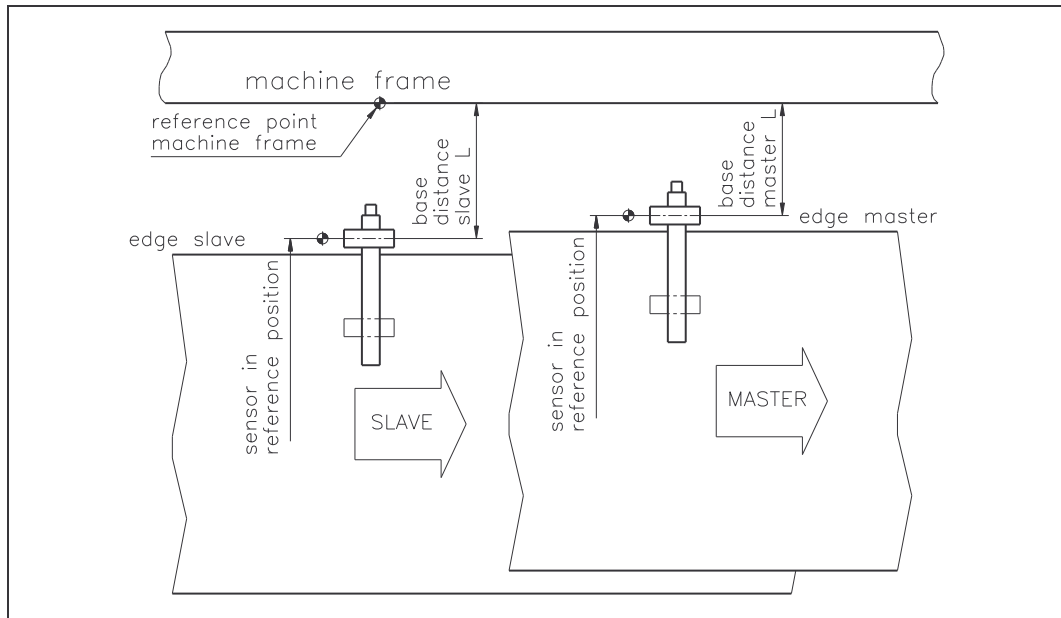

fig. 19: Base distances and reference point when using linear units K610011e
With or without linear units a reference point can be defined. Then, all position values will refer to this reference point. The reference point can be on the machine frame, for example (fig. 19).
- In parameter *Base distance master left* set the distance between reference point (i.e. machine frame) and axis of left master web sensor (fig. 19).
- In parameter *Base distance master right* set the distance between reference point (i.e. machine frame) and axis of right master web sensor (fig. 19).
- In parameter *Base distance slave left* set the distance between reference point (i.e. machine frame) and axis of left slave web sensor (fig. 19).
- In parameter *Base distance slave right* set the distance between reference point (i.e. machine frame) and axis of right slave web sensor (fig. 19).
The reference point must always have a greater distance to the web edge than the sensor has (fig. 19).
If measuring from a reference point is not needed, the parameters *base distance master left*, *base distance master right*, *base distance slave left* and *base distance slave right* have to be set to Zero. In this case, the position values are referring to the sensor positions. If linear units are used, the position values are referring to the reference positions of the linear units (fig. 19).